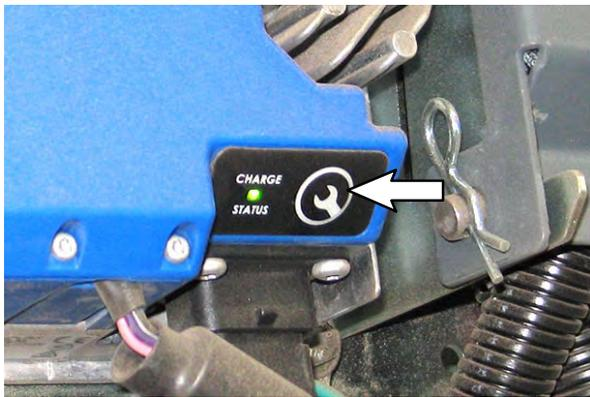

FIG. 63
63. Press and release the Charger Profile Selection Button. (Fig. 63)